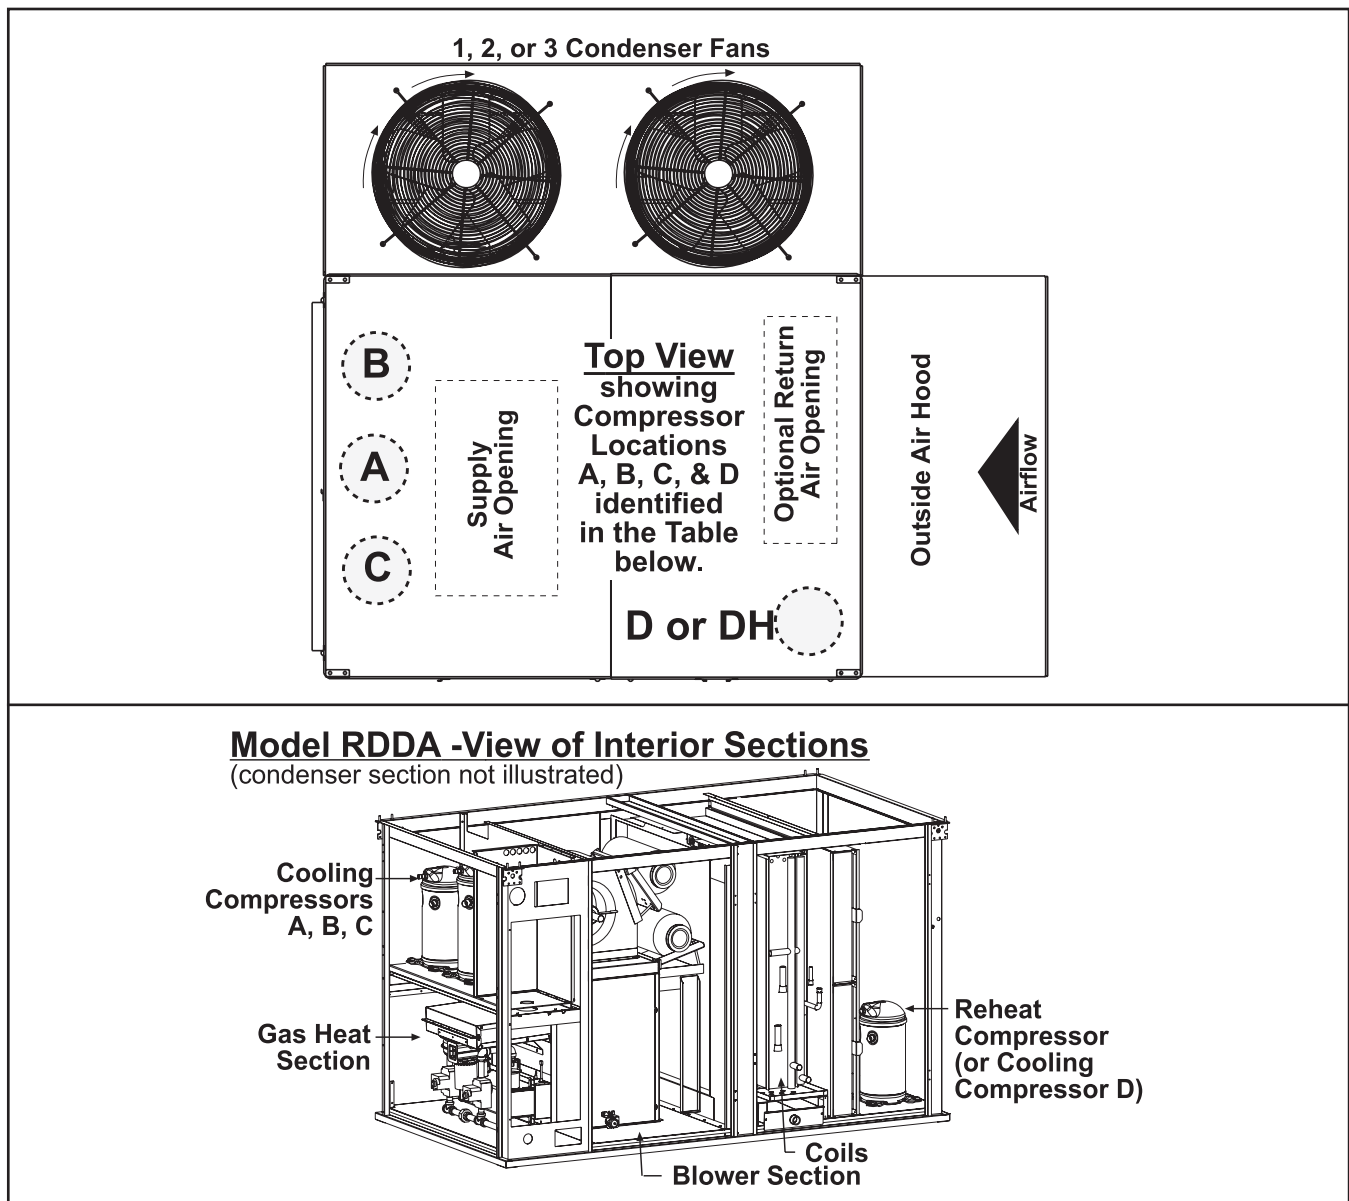

Figure 5. Cooling and Dehumidifying Component Locations
- Cooling and dehumidifying component locations are shown in Figure 5.